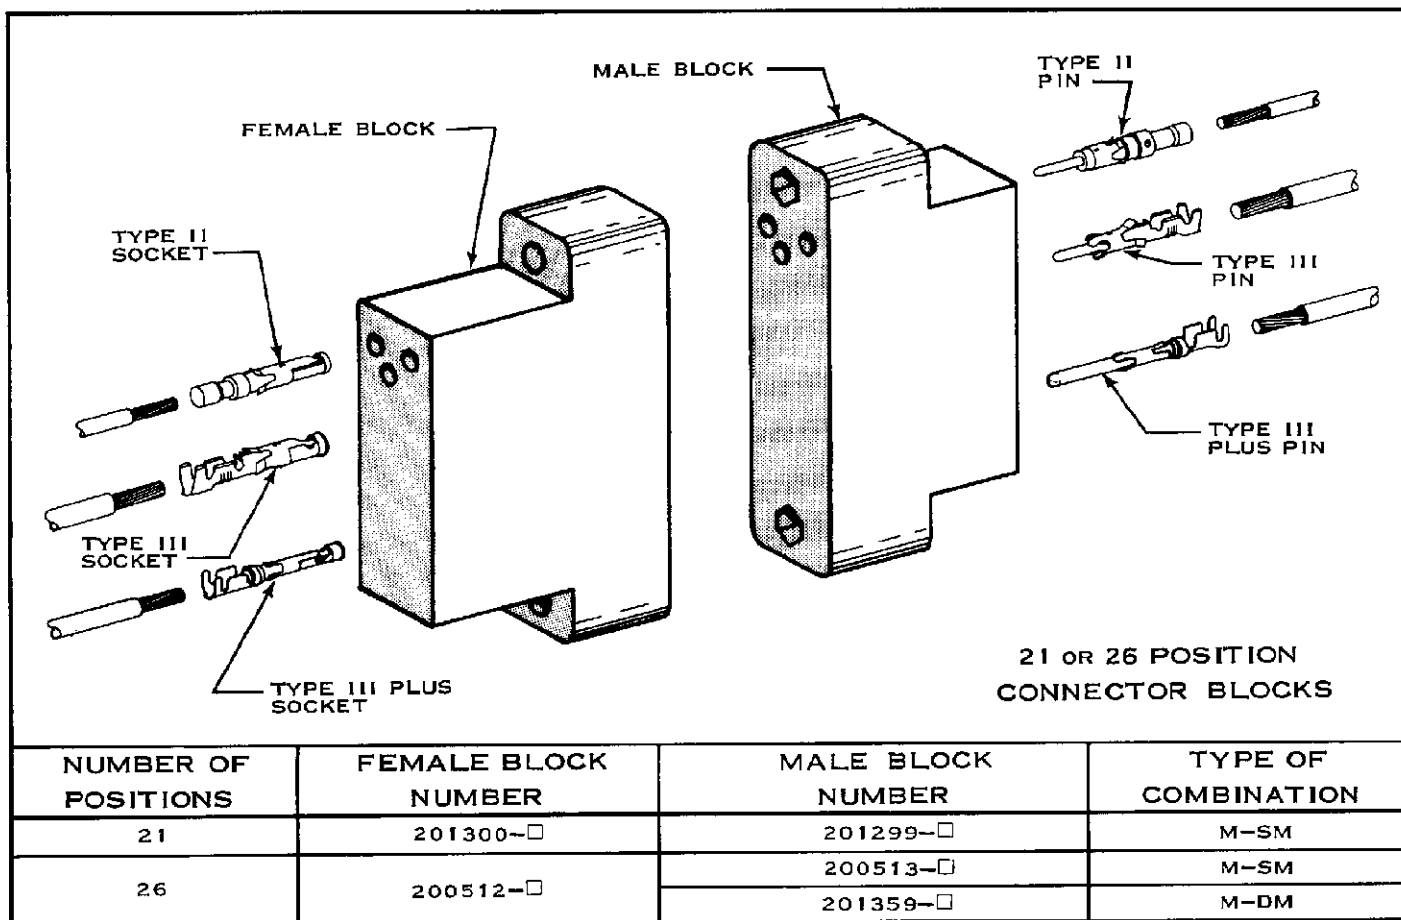

Fig. 1
- Select proper Male and Female Connector Blocks from Figure 1.